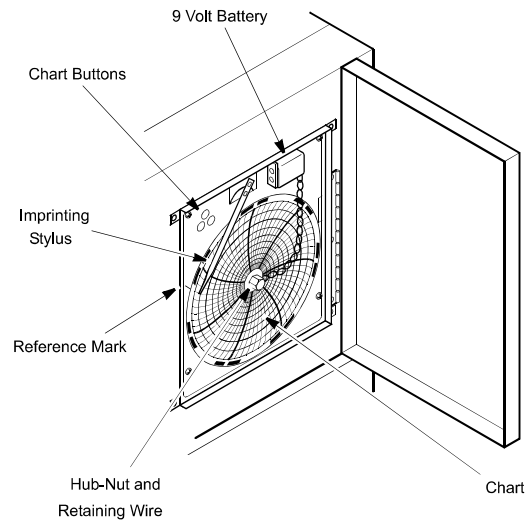

Figure 3. Six Inch Chart Recorder
3. Unscrew the center nut, remove the old chart paper, and install new chart paper. Carefully align the day and time with the reference mark on the recorder panel (a small groove on the left side of the panel, shown in Figure 3).